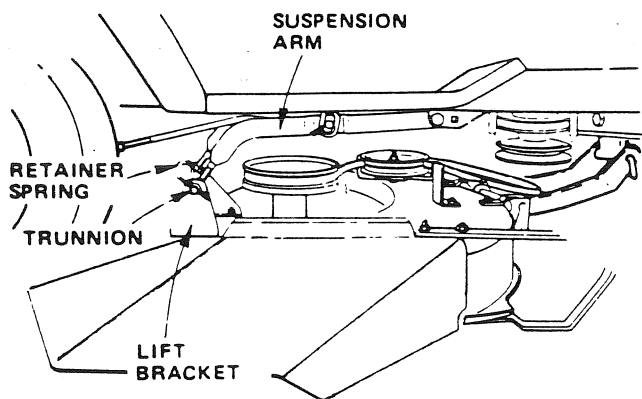

FIGURE 31
3. Move Lift Lever forward to lower Suspension Arms. Slide Trunnions through Lift Bracket holes and secure with Retainer Spring (Fig. 31).